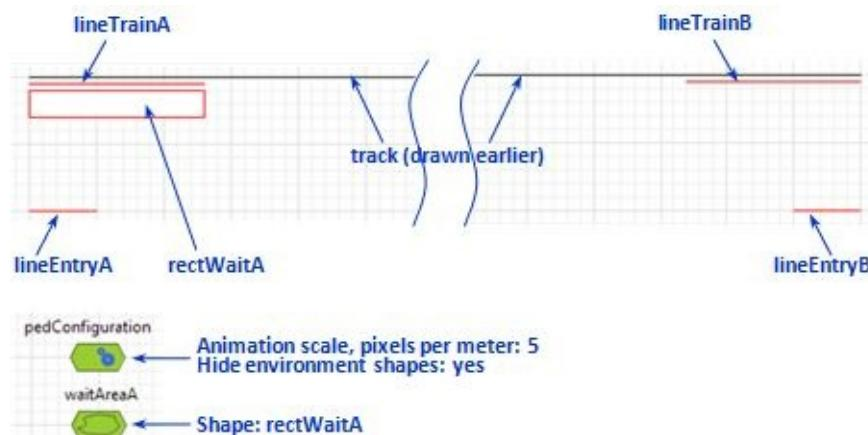

Figure 9.25 Markup of the pedestrian ground
7. Create the markup as shown in Figure 9.25. Use **Line** and **Rectangle** objects from the **Presentation** palette.
8. Drag **PedConfiguration** and **PedArea** objects from the **Pedestrian Library** palette. Call **PedArea** *waitAreaA* and set the properties of these two objects as shown in Figure 9.25.